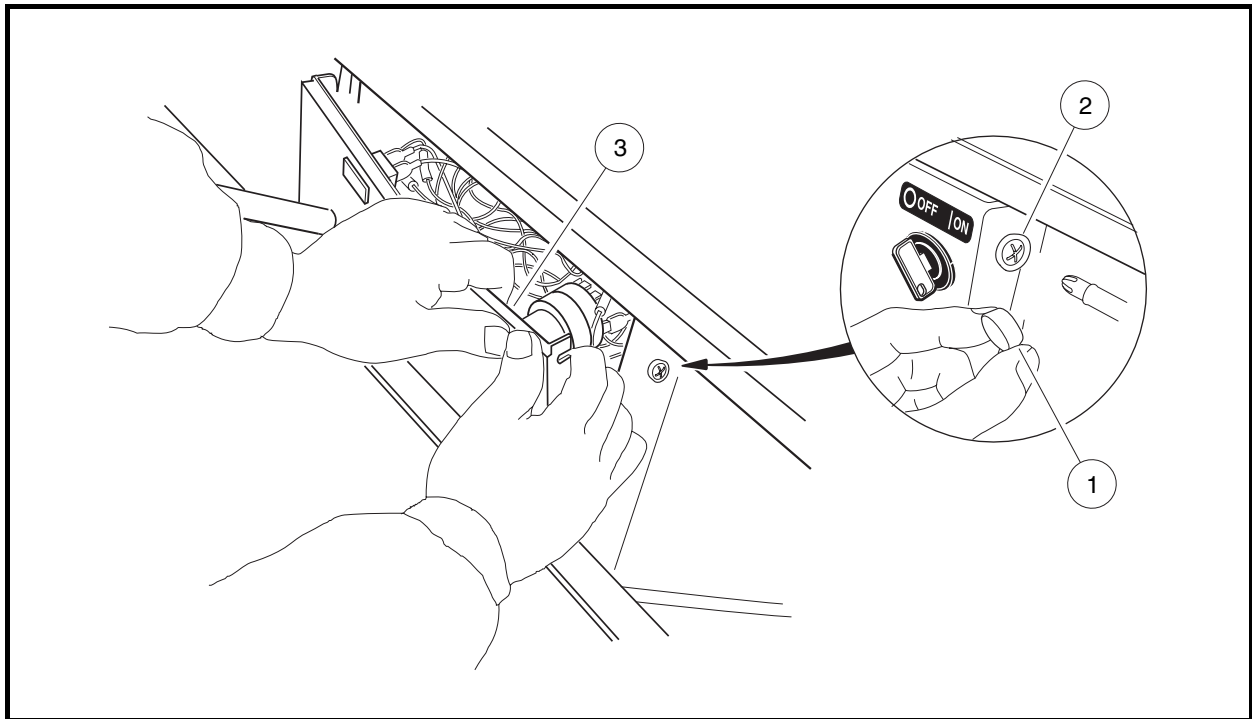

Figure 14-16 Center Dash Panel Removal
- 2.1. Remove the plastic cap (1) covering the mounting screw (2) on each side of the center dash panel (3) (Figure 14-16, Page 14-13).
2. Remove the center dash panel (**Figure 14-16, Page 14-13**).